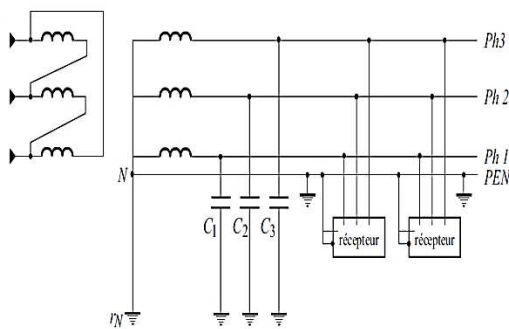

Fig. 1
- 6- What is the neutral system represented by each of Figures 1 and 2? (2 points)